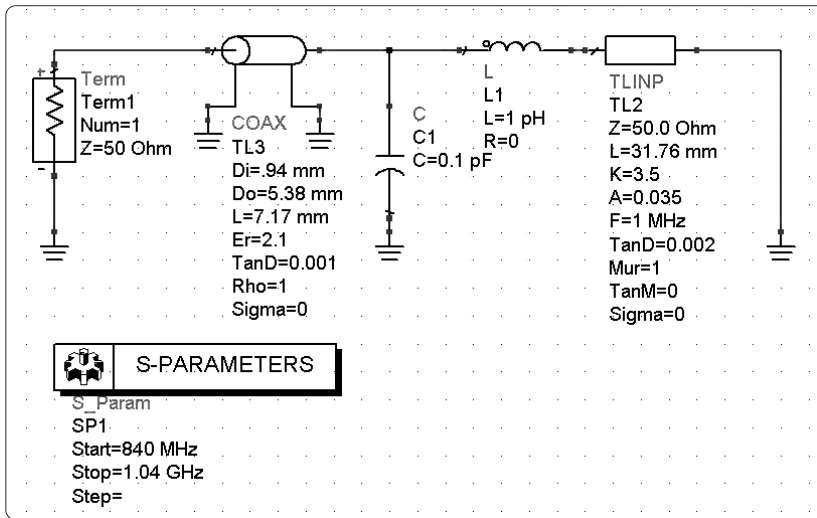

Figure 10. Simulated model of test board using ADS
Step 5: Apply de-embedding data to each test port as shown in figure 10, thereby removing unwanted test board effects.
As shown in figure 10, the test board is modeled using ADS. First, the coaxial connector on the test board is modeled as a small length of coaxial line. Second, a coaxial-to-microstrip transmission line is modeled as a lumped series inductor and a shunt capacitor that is optimized to correlate with the test board's actual coaxial measurement results.